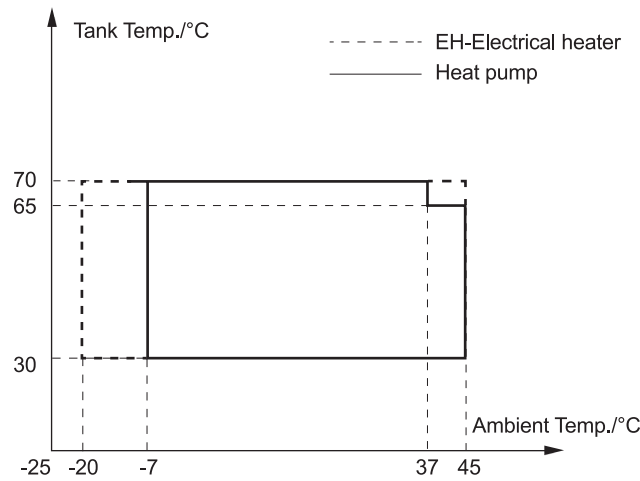

Figure 6.4-2 Operating Limits of the Unit
- In STANDARD mode, the heat pump will turn on until the water reaches the set temperature. If the ambient temperature is above 37°C and the water tank temperature is between 65 and 70°C , the heat pump will switch off and the electric heater will heat the water to the set temperature (refer to the Figure 6.4-2).